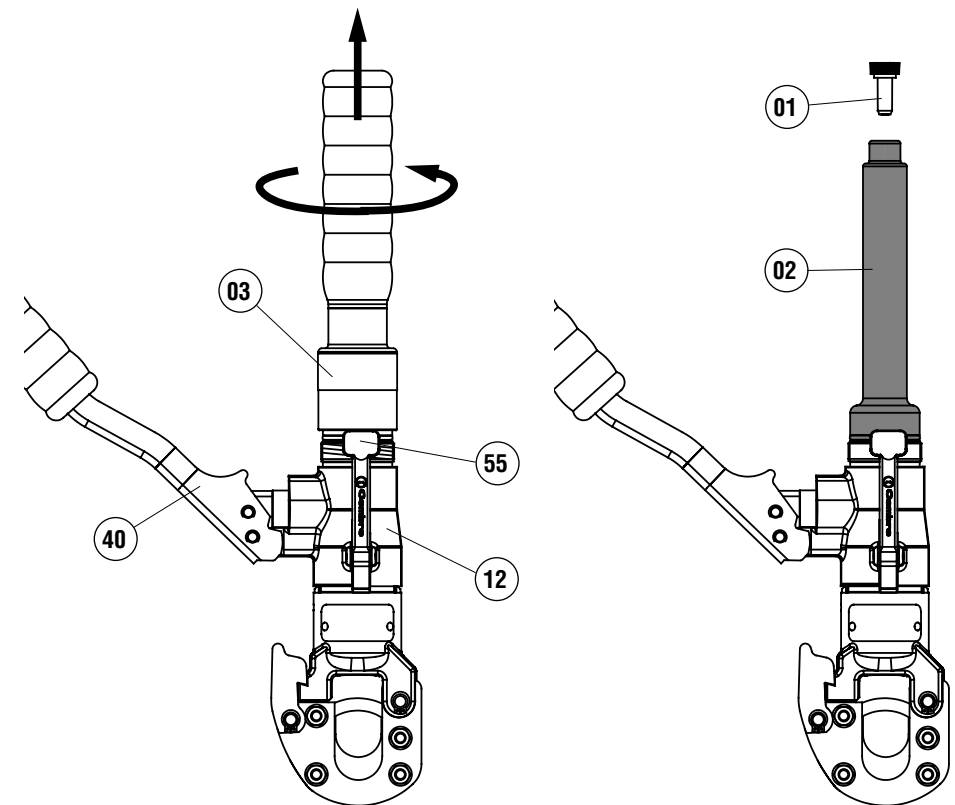

FIG. 3 TOOL POSITION FOR MAINTENANCE OPERATIONS
4. MAINTENANCE (Ref. to Fig. 3)
a – Hold tool upright in a vice with handles open (Fig. 3).